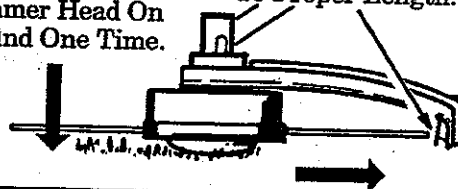

Figure 9
- Always keep the shield in place when the tool is being operated. Figure 9.
3. Tap bottom of trimmer head lightly on ground one time. See Figure 9. Approximately 2 inches of line will be advanced with each tap.